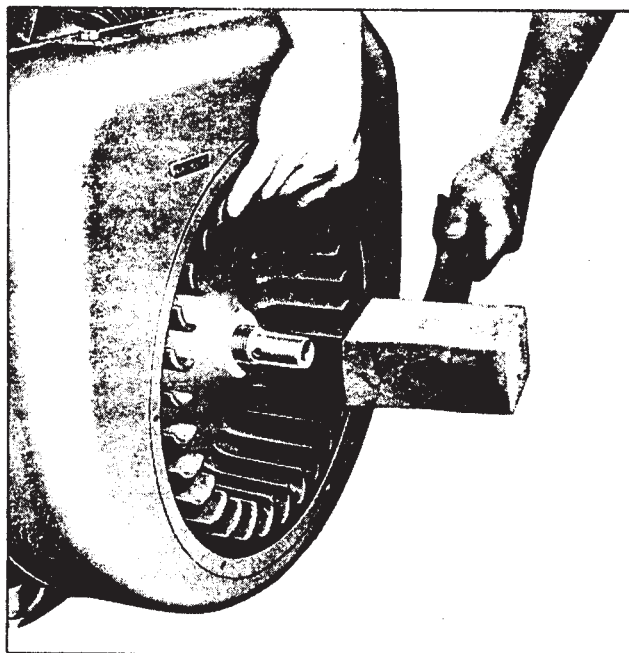

Figure 10-1. Flywheel Removal
b. Take a firm hold on the flywheel fins, pull outward and at the same time strike the end of the crankshaft with an aluminum hammer (see figure 10-1). The flywheel will slide off the taper of the crankshaft. Do not use a hard hammer as it may ruin the crankshaft and bearings.